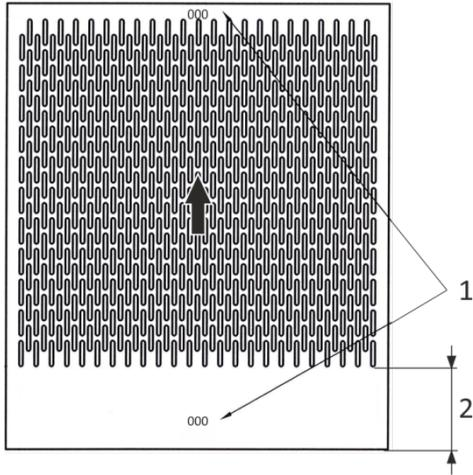

Figure 15: Straw sieve - mounting position
- ⇒ Pay attention to the mounting position; refer to **figure 15**.